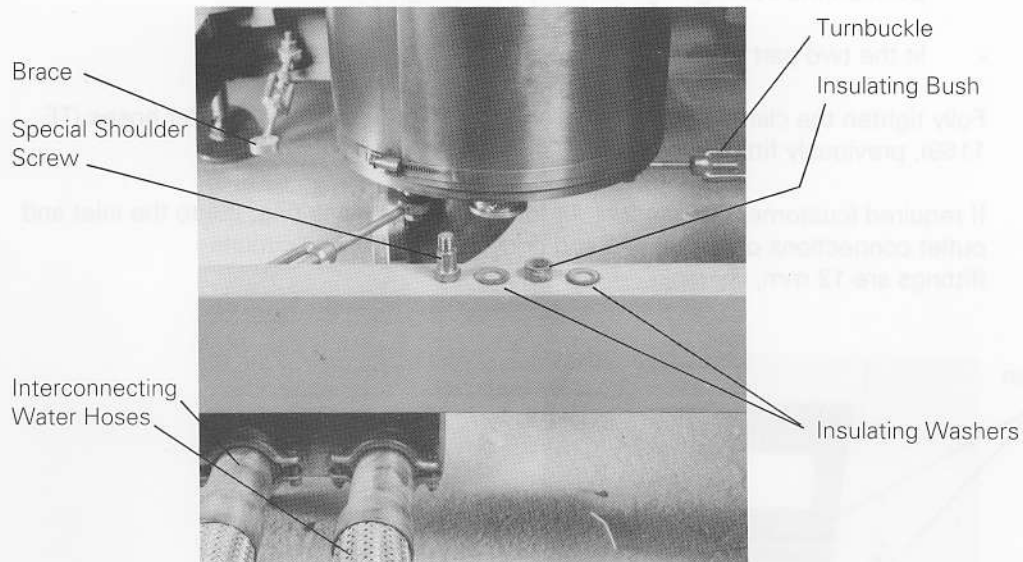

Fig. 27. View from Left Showing Attachment of Braces
- (d) Unpack the two interconnecting water hoses (TE 1169) and their fastenings from package P3 (paragraph 1.1. (b)). Use two of the two-part clamps (with nuts and bolts) and two of the sealing rings, and fasten one end of each interconnecting water hose (TE 1169) to the two connecting flanges (see Fig. 27) on the water outlet collecting tube (TE 1168) as follows:
- (a) Attach the free ends of the factory-fitted braces (Fig. 27) to the bottom of the collector, using the three special shoulder screws, insulating bushes and insulating washers from package P4 (paragraph 1.1.(b)).